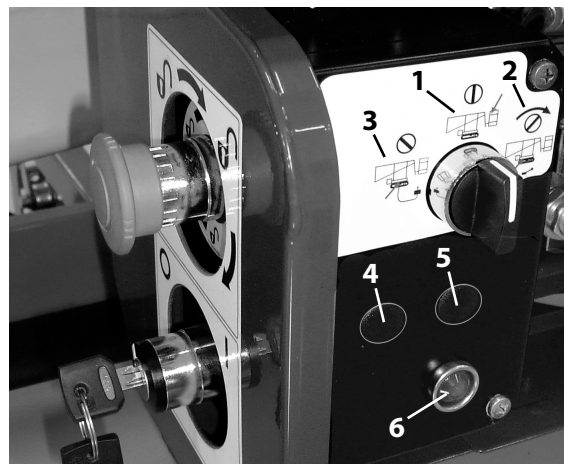

Figure 4-1. Ground/Emergency Control Box
2. Power the machine using a heavy duty AC power cord with sufficient amperage capacity, through the connector (*item 1* positioned near the electric engine.
3. Turn on the circuit breaker switch (*item 2*) positioned behind the clear plastic cover near the electric engine (— symbol is ON - O symbol is OFF).
4. Start the electric engine using the engine start button at the ground/emergency control box. (*item 5 - Figure 4-1.*) and operate machine.
5. When finished operating with the electric engine, turn off breaker switch (*item 2*), and unhook the electric AC cord from receptacle (*item 1*).